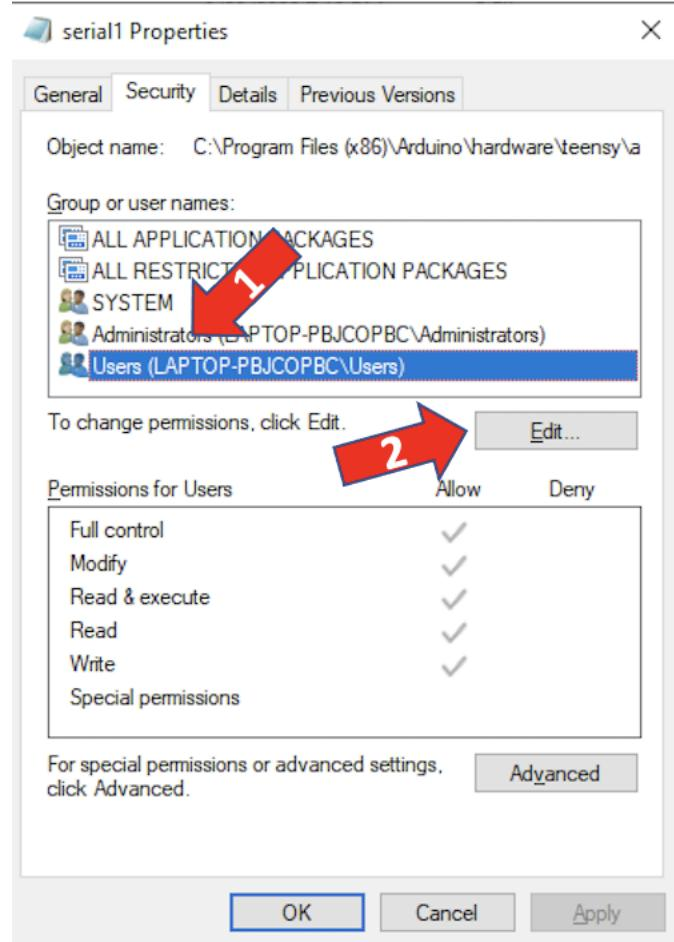

Figure 74. Serial1 Properties Security Tab.
13. Security Tab opens (Figure 74).